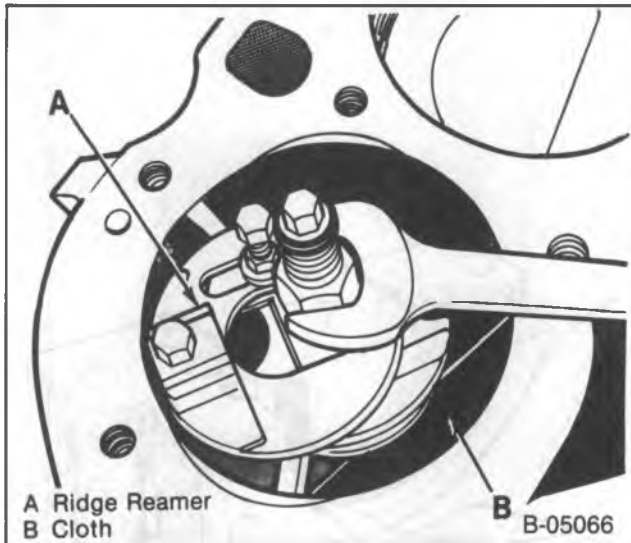
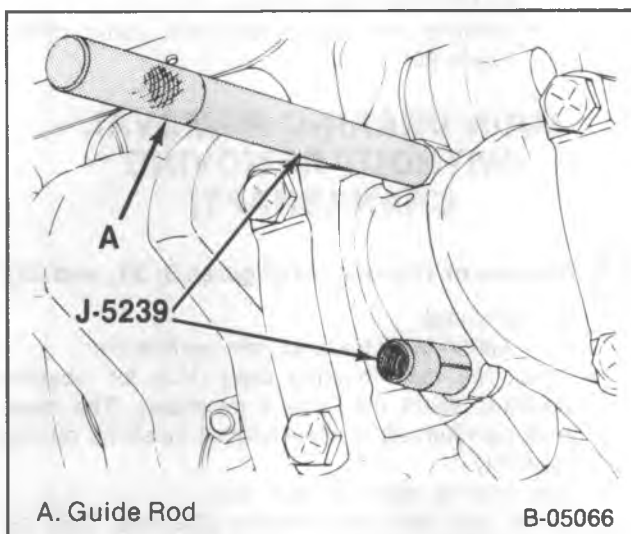

Figure 16—Removing the Cylinder Ridge
Figure 17—Removing the Piston and Connecting Rod
- Using the manufacturer's directions, install a ridge reamer into the top of the cylinder (figure 16). Perform the cutting operation.
2. Connecting rod caps (110) as follows:
- Make note of the arrangement of the connecting rod (108) markings, to insure that they will be returned to their proper position during assembly. Mark the connecting rods with a scratch awl if necessary.
- Remove the nuts (111).
- To avoid mismatching the connecting rods and connecting rod caps, remove only one connecting rod cap at a time. Place the piston (107) at the bottom of its stroke.
- Install J-5239 onto the studs (109) (figure 17).
3. Connecting rod (108) and piston (107) from the block (115).
- Push on the guide rod (item A, figure 17) to push the piston and connecting rod out. Use the guide rod to prevent the connecting rod from scoring the cylinder bore.
- Loosely assemble the connecting rod cap (110) onto the connecting rod.